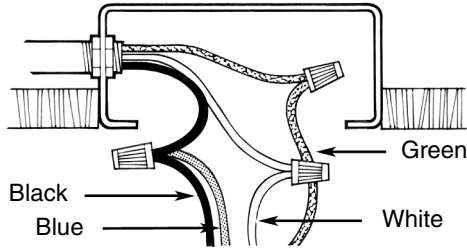

Fig. 9
- ❖ Attach the **GREEN** wire (*connected to the half ball*) to the **GROUND** wire in the junction box. The **GROUND** wire is usually a bare copper wire without plastic insulation. It could also be covered in green plastic insulation (*see figure 9*).